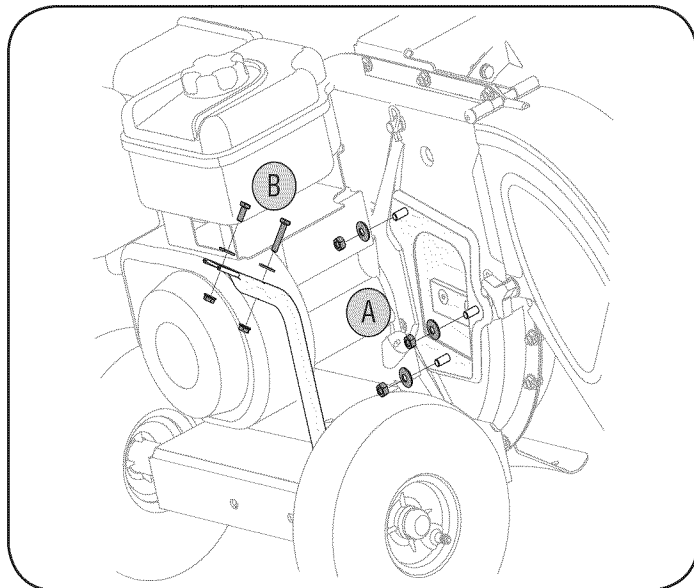

Figure 5
1. A. Remove the three cupped washers and hex nuts from weld studs around the opening on the side of the impeller housing. See Figure 5.